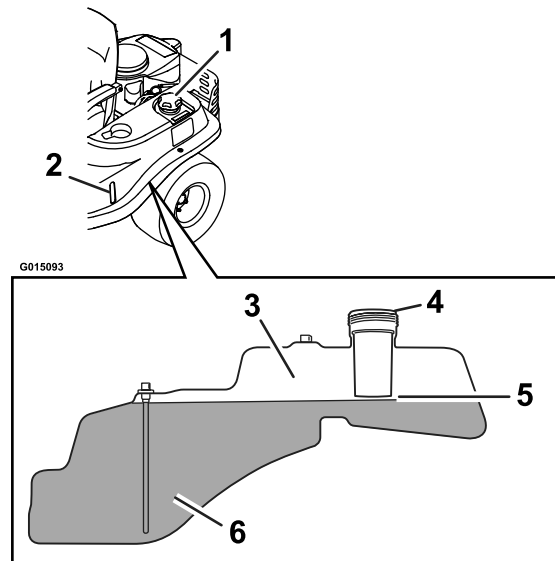

Figure 7
3. Add unleaded regular gasoline until the fuel reaches the base of the filler neck and does not fill the neck of the tank (Figure 7). This space at the base of the filler neck allows gasoline to expand. Do Not fill the fuel tank completely full. Overfilling may result in fuel leakage or damage to the engine or emissions system.